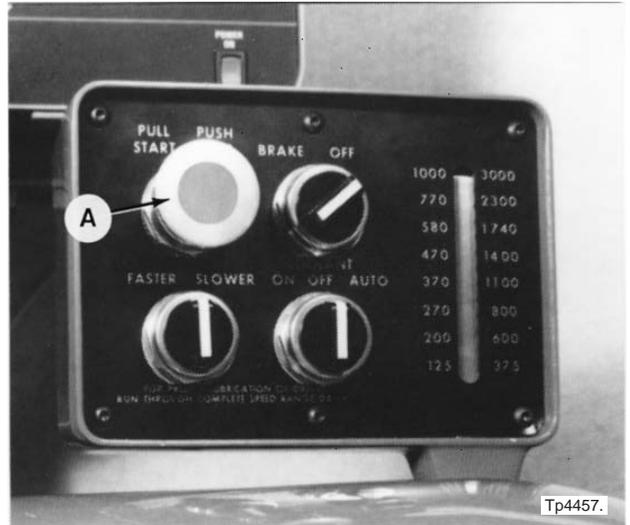

Figure 4.1 - Variable Speed Control Box (HLV®-H Version Shown)
1. Press "Start/Stop" pushbutton "A", Figure 4.1, IN to turn the machine OFF.